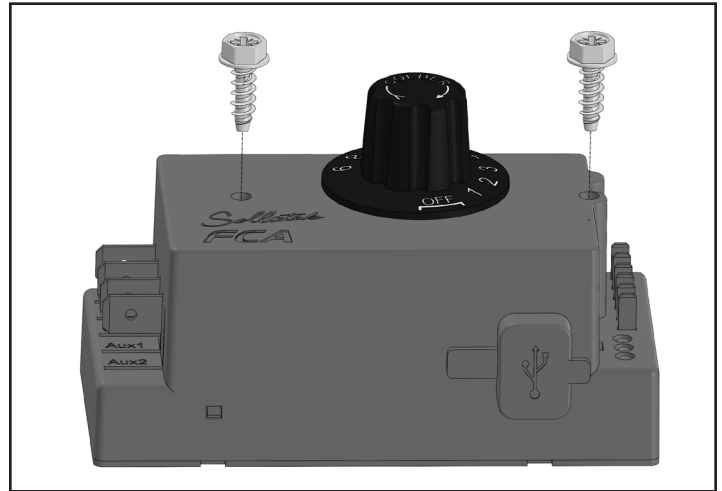

Fig. 4. Cut the threads in the control screwholes.
1. With the provided Phillips hex head screws, cut threads in the control screwholes. See fig. 4.